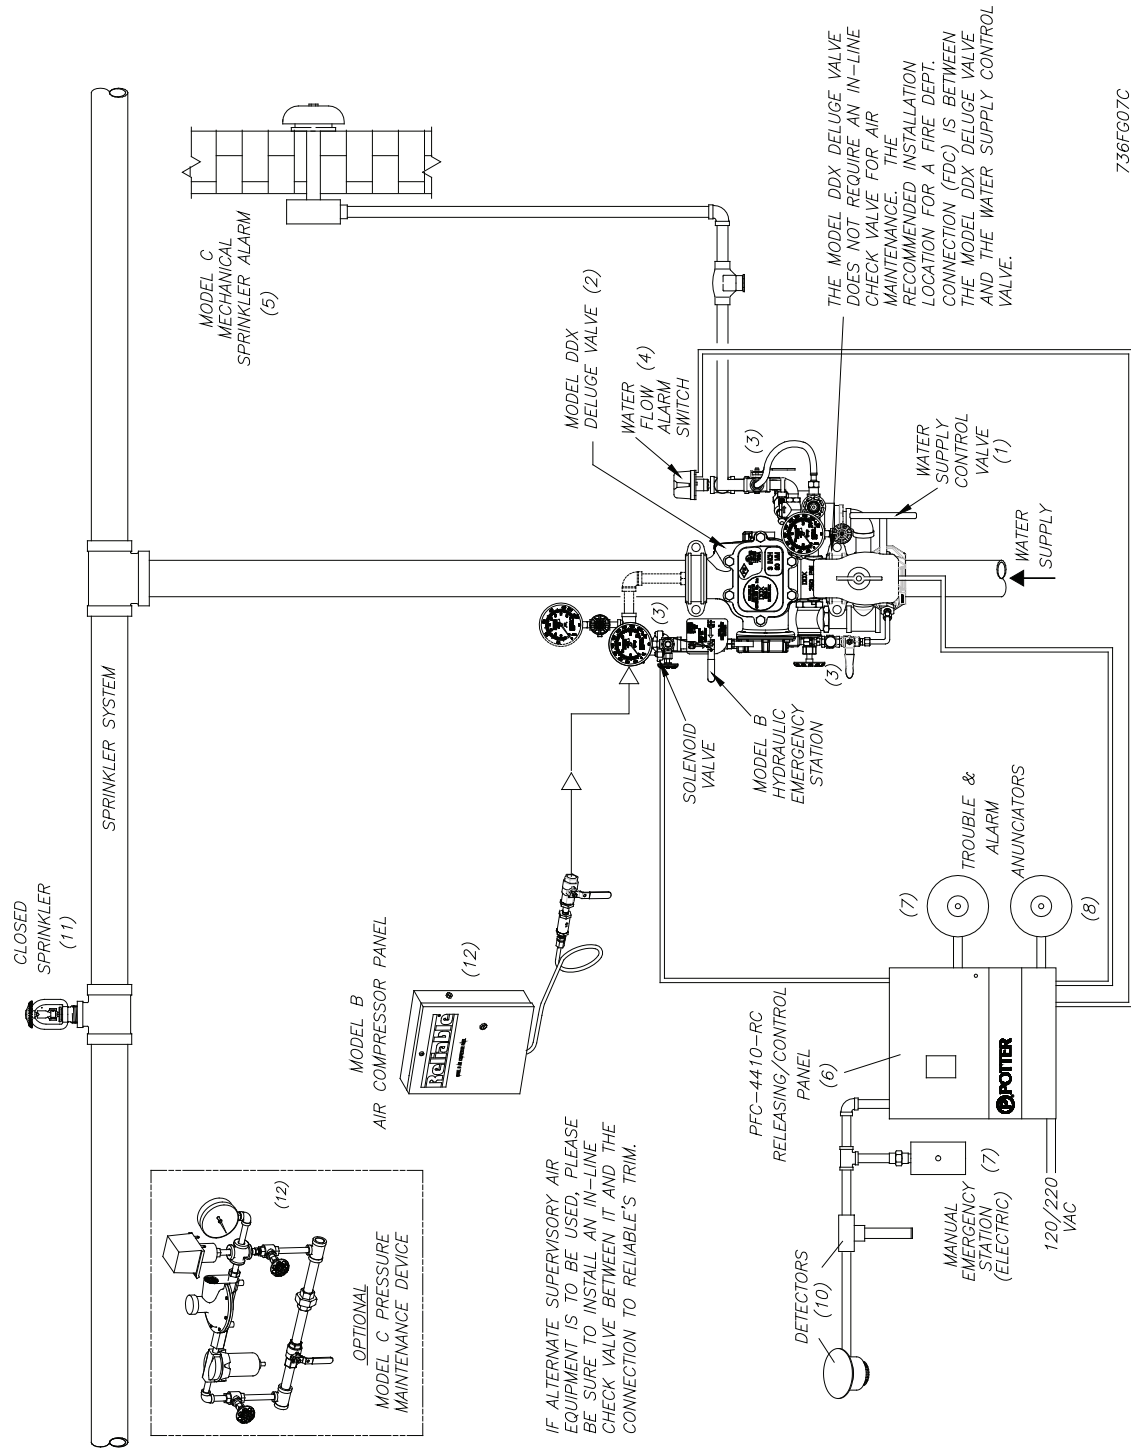

Fig. 7
- **Additional Equipment (Refer to Fig. 7)**